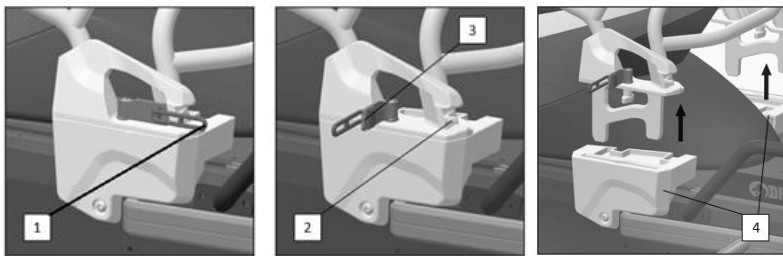

Fig.25
3. Remove the rubber clips from the left and right hooks of the backrest base (posture 1, Figure 25) (posture 2, Figure 25);
4. Rotate the lock (position 3, figure 25) to 90 ° on the left and right of the backrest;
6. Lift the backrest from the armrest and release it from the left and right brackets at the same time (posture 4, Figure 25).